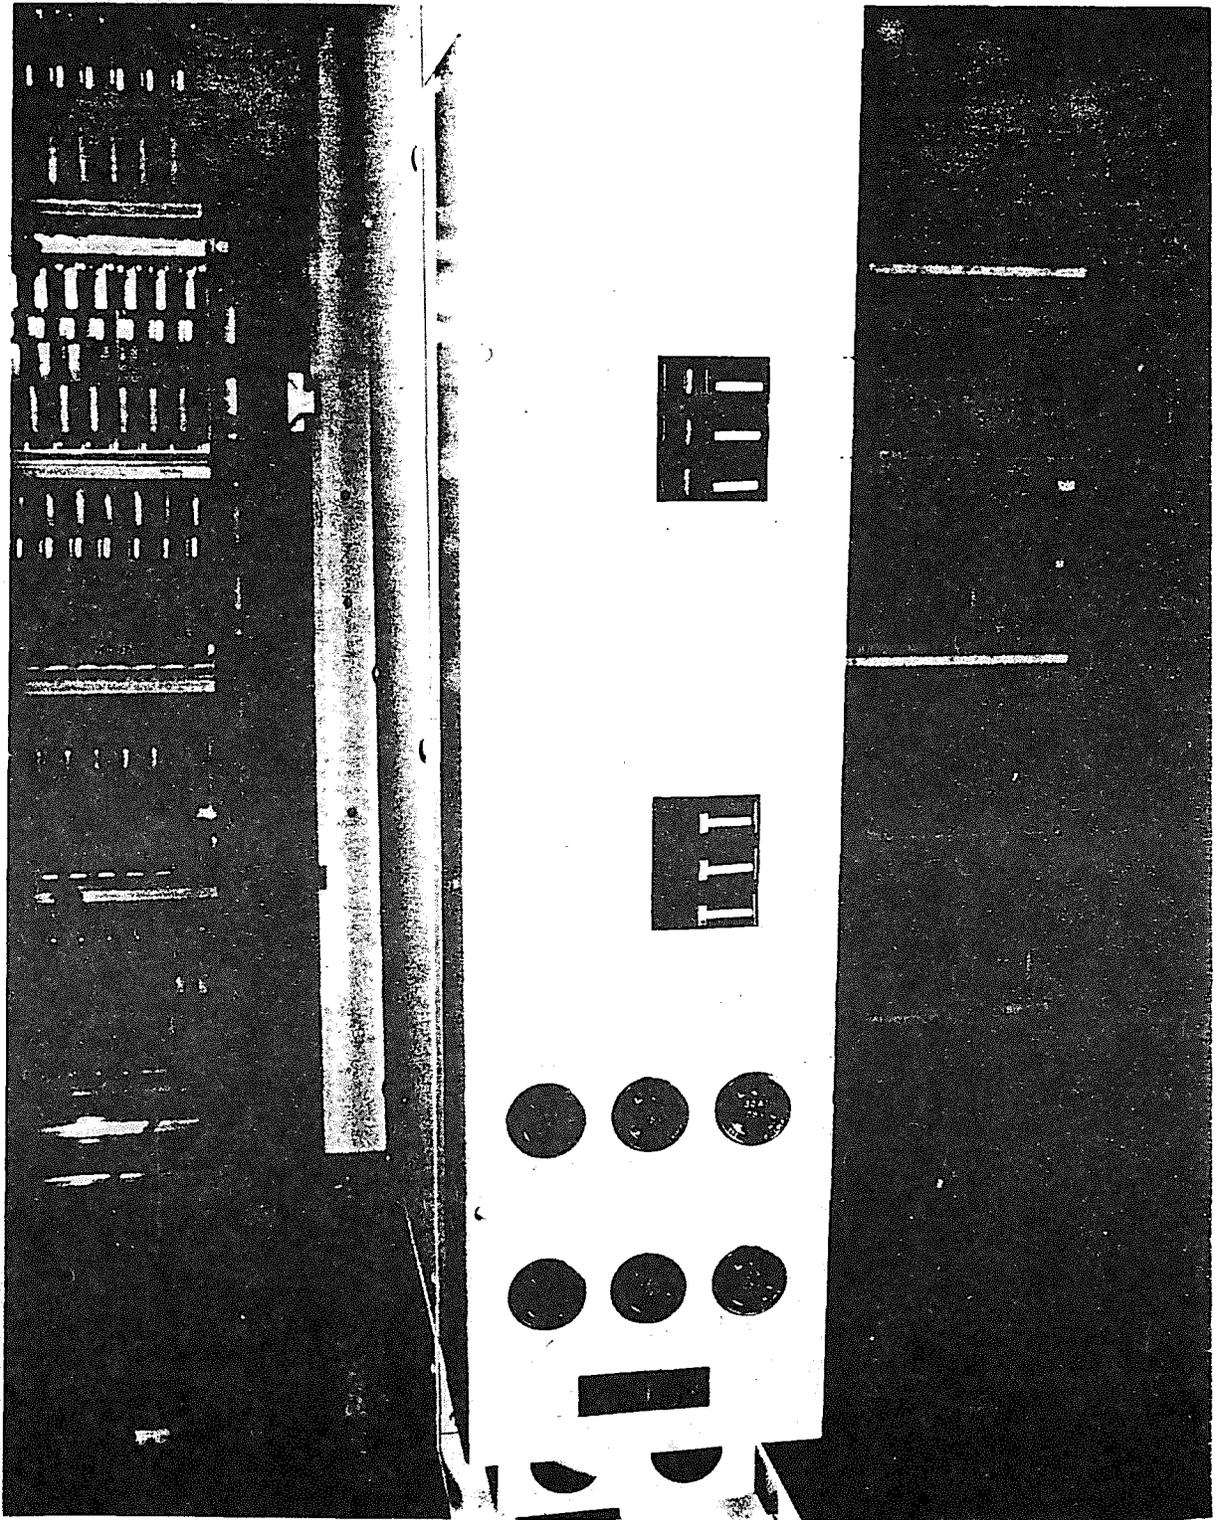

FIGURE 8
- 5.1 There are at least two ways the AC power boxes may be mounted to power the system: on the wall in single-line systems or on the vertical cable ducts in multi-line systems. In either case the ED-1E376-70 Module AC Box will be used. This box is fed with two 115 VAC, 2-wire + ground primary circuits which have first been looped through an ED-1E375-71 Protector Cabinet. Three of the 6 breaker/receptacle pairs are fed from one of the 115 volt lines while the others are fed from the other 115 volt circuit. An ED-1E376-70 Module AC Box is shown in Figure 8.